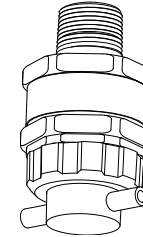

Figure 215. MPD with Flow Housing
3. Reverse the cap removal procedure. Figure 215 shows the flow housing accessory fitted to the MPD.